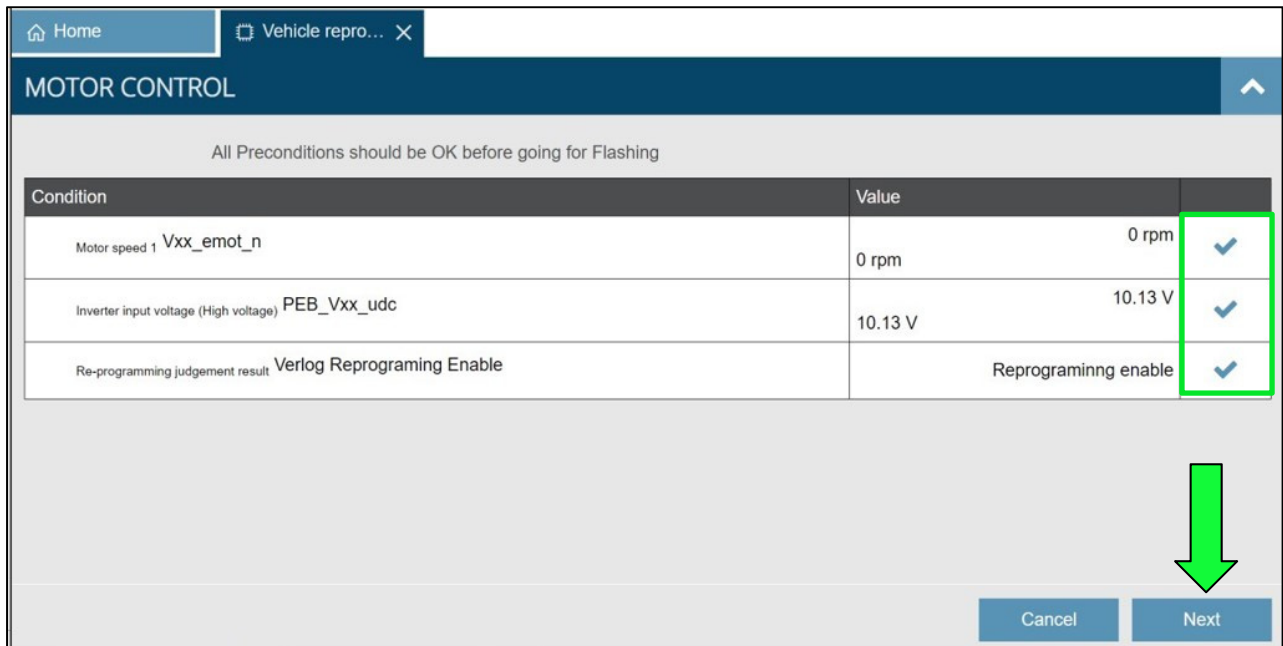

Figure 15
21. Once all three (3) items display a check mark, as shown in Figure 15, select **Next**.